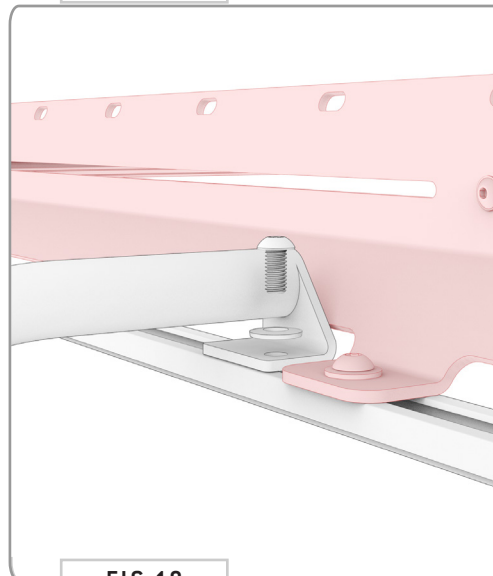

FIG 10
**3.2 Attach Side Ladder:** Loosely secure **Side Ladder** to **Rail Nuts** using (2) 3/8-16 x 0.5" **Button Head Hex Screws** and **Lock Washers** (**FIG 10+11**).